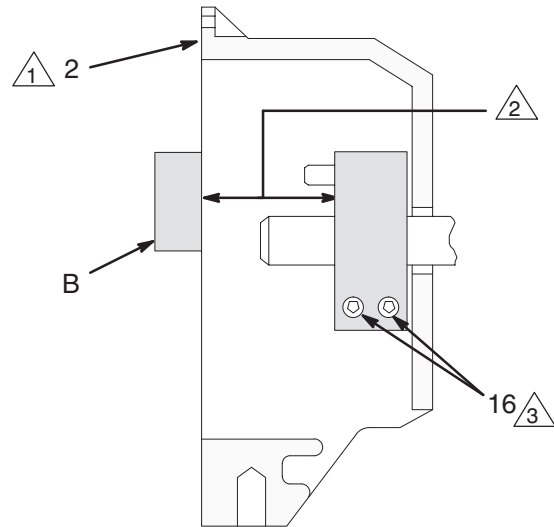

Fig. 19
3. Press the **clamp (3)** onto the engine shaft (A). Maintain the 1.99 ± 0.01 in. (50.55 ± 0.25 mm) dimension shown in Fig. 19.